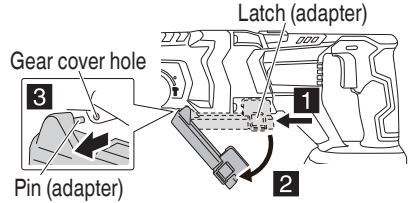

Fig. 8
- (2) Press the latches on both sides and pull the pin from the hole to remove the adapter. (Fig. 8)